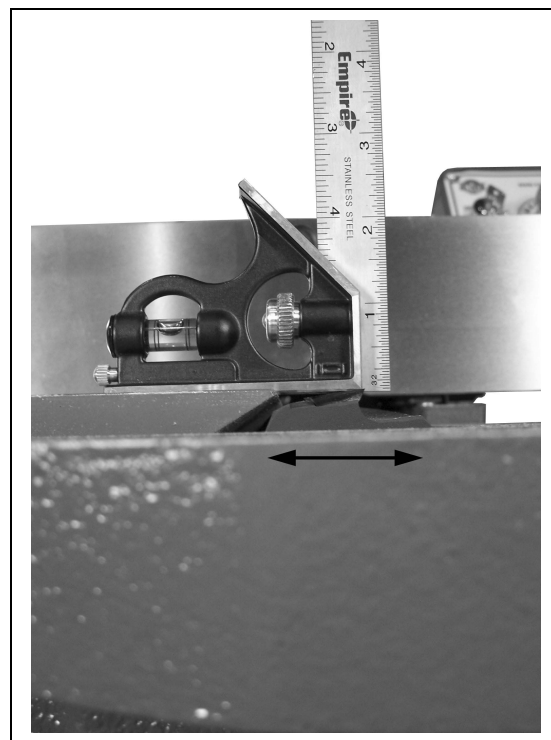
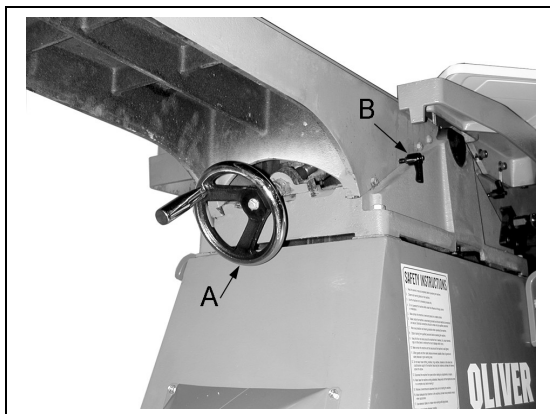

Figure 13
Figure 14
1. For proper operation the height of the outfeed table must be set to the highest point of the cutting circle. To do this, set a straight edge on the outfeed table as shown in Figure 13.
2. Carefully adjust the table height by turning the handwheel (A, Figure 14) while rocking the cutterhead back and forth as shown by the arrow in Figure 13. The table will be at it's correct height when the knife, at it's highest point of the cutting circle, just scrapes the bottom of the straight edge.
3. Once set, lock into place with the height lock knob (B, Figure 14).